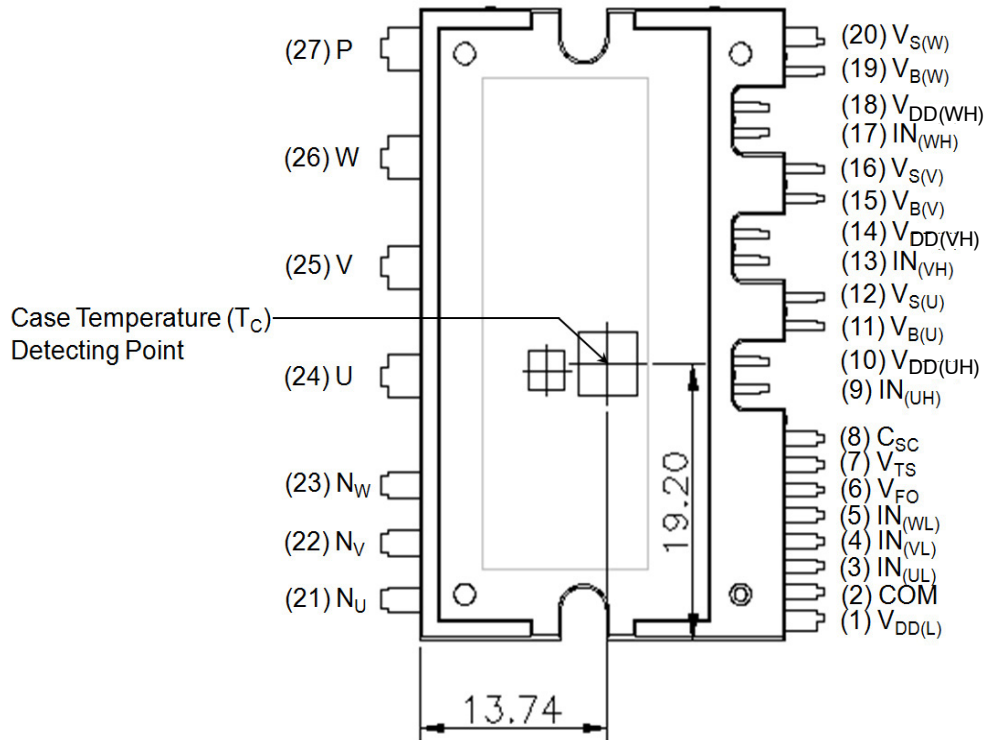

Figure 1. Top View
4. For the measurement point of case temperature (T_C), please refer to Figure 1. DBC discoloration and Picker Circle Printing allowed, please refer to application note AN-9190 (Impact of DBC Oxidation on SPM[®] Module Performance).